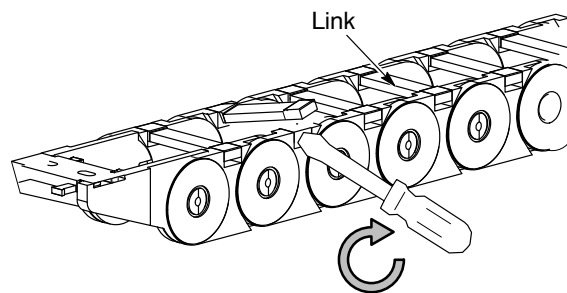

Figure 8 Releasing Link
2. At the other end of the cable track (6), pull the cables through the opening (5).
3. Lay the cable chain (2) along the cable track (6) and secure the chain (2) with the two screws (3) and washers (4) to the track (6).
4. To run and secure cables along the length of the cable chain (2), open the cable chain links as follows:
- a. See Figure 8. To release the chain link, place the end of a flat head screw driver into the space under the link end, and rotate the head of the screw driver to release the link.